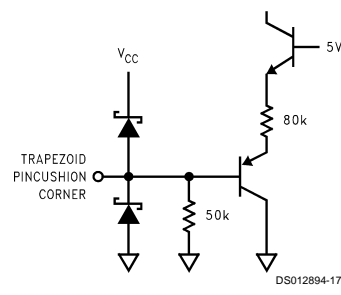

FIGURE 11.
**Pin 8. TRAPEZOID:** A 0V to 4V DC voltage applied to this pin adjusts the polarity and the amount of linear sawtooth component (Trapezoid Correction) in the E-W OUT output. At approximately 2V, the amount is zero. A voltage above 2V sets a negative-sloped sawtooth output, increasing the voltage increases the sawtooth amplitude. A voltage below 2V sets a positive-sloped sawtooth output, decreasing the voltage increases the sawtooth amplitude. See Figure 11 for the input schematic.
**Pin 9. CORNER:** A 0V to 4V DC voltage applied to this pin adjusts the polarity and the amount of 4th order parabolic component (Corner Correction) in the E-W OUT output. At approximately 2V, the amount is zero. A voltage above 2V sets a concave down 4th order output, increasing the voltage increases the 4th order amplitude. A voltage below 2V sets a concave up 4th order output, decreasing the voltage increases the 4th order amplitude. See Figure 11 for the input schematic.
**Pin 10. PINCUSHION:** A 0V to 4V DC voltage applied to this pin adjusts the polarity and the amount of 2nd order parabolic component (Pincushion Correction) in the E-W OUT output. At approximately 2V, the amount is zero. A voltage above 2V sets a concave down 2nd order output, increasing the voltage increases the 2nd order amplitude. A voltage below 2V sets a concave up 2nd order output, decreasing the voltage increases the 2nd order amplitude. See Figure 11 for the input schematic.